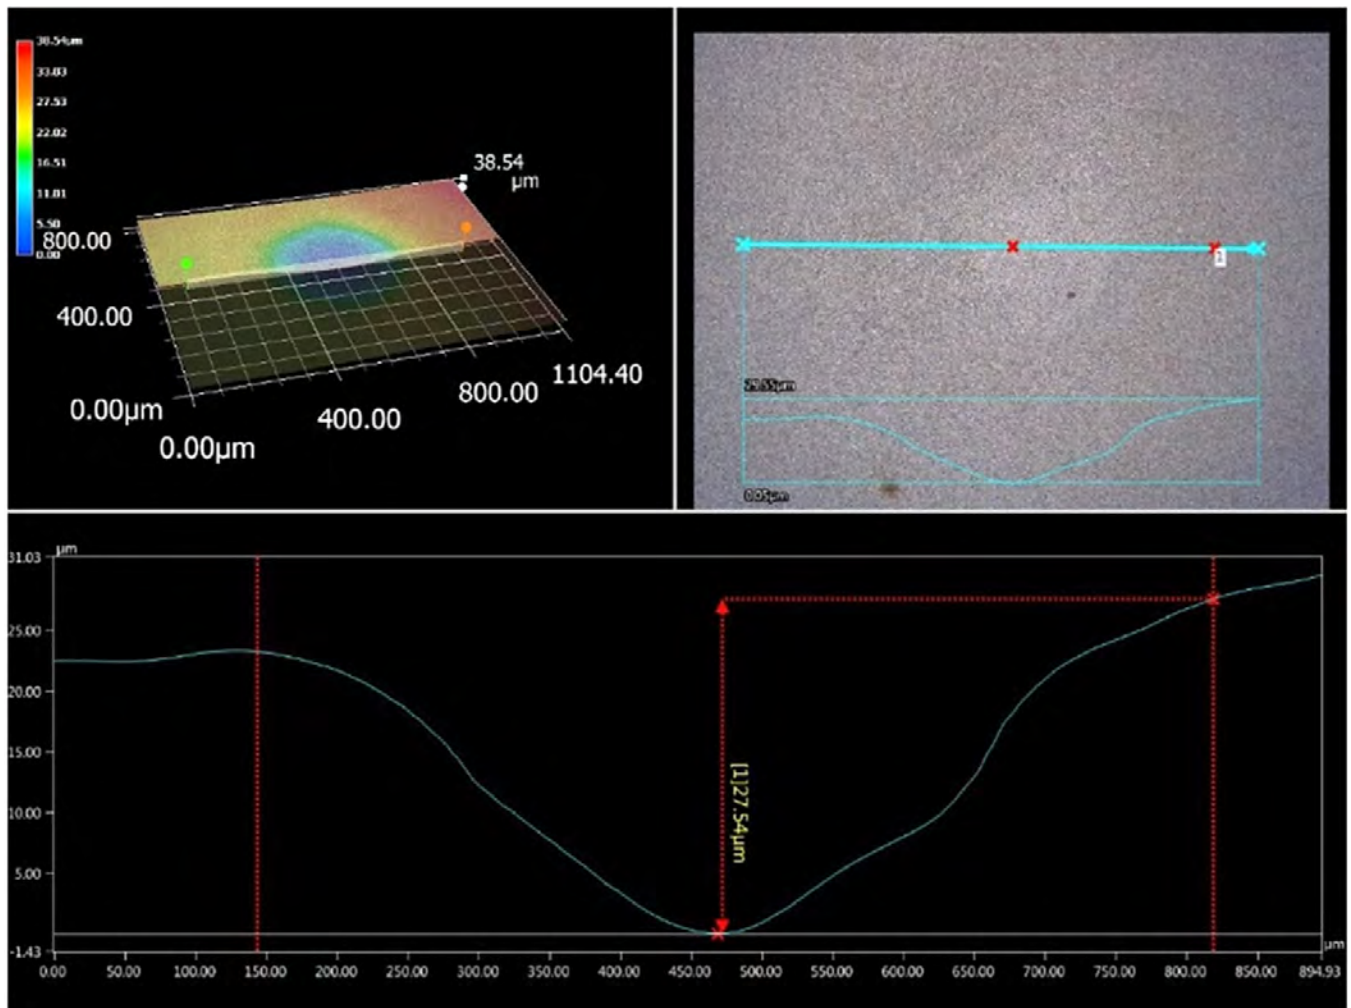

Figure 11: Optical image and profile of the surface of the plugged via.
Another focus of the analysis was evaluating the influence of the via design on to the void percentage. The complexity and functionality of the boards' vias in a PCB are important components. In this study two types of vias were evaluated: (1) through hole vias and (2) plugged vias. All vias were 0.3 mm diameter. Plugged vias were 0.3 mm diameter through hole vias with 0.5 mm diameter resist on top and bottom. Figure 11 shows the optical profile of the plugged via. It appears that resist had some curvature (depression), which could contribute to increased voiding due to air entrapment.